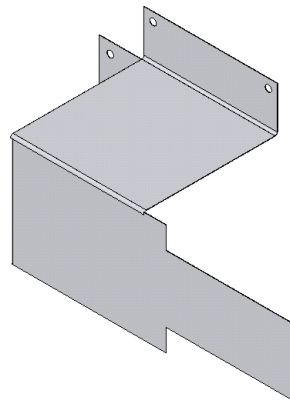

Figure 16-149 Model after creating the tab feature
3. Choose the **Base-Flange/Tab** button from the **Sheet Metal** toolbar to create the tab feature. The model after creating the tab feature is displayed in Figure 16-149.